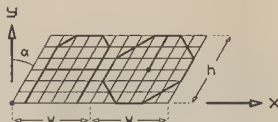

FIGURE 1: SYMBOLS
**CENTRED SYMBOLS** - These are CHR\$(1)-CHR\$(12) The origin (X,Y) is defined in the centre of the symbol (the fat dot in the middle of the right symbol in figure 1)
**NORMAL CHARACTERS** - For all other symbols the origin is defined at the bottom-left of a grid of 7\*7 lines (see "A" in figure 1). Note that the left and rightmost lines are not used and the actual width of the character is 2/3 W (the space between two characters is 1/3 W). The symbols 14-31, 96 and 123-149 are special GREEK and MATHEMATICAL symbols that are not in the Commodore set normally Numbers 32-95